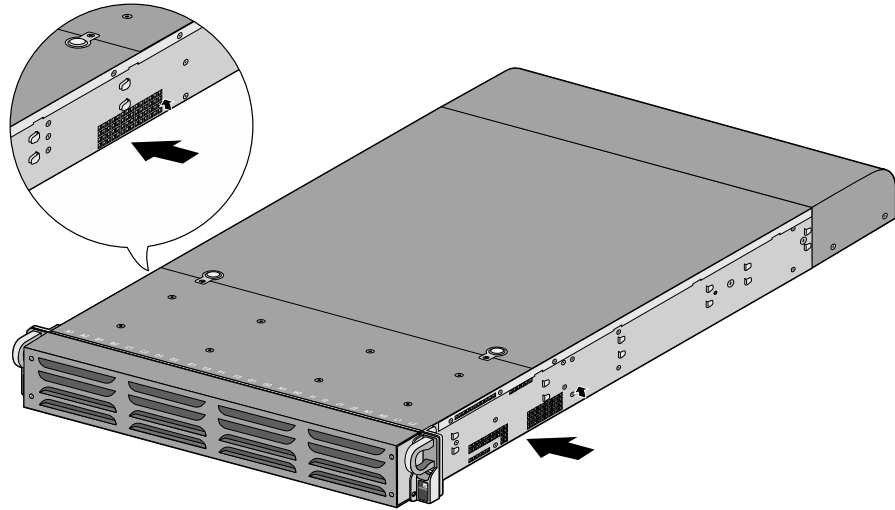
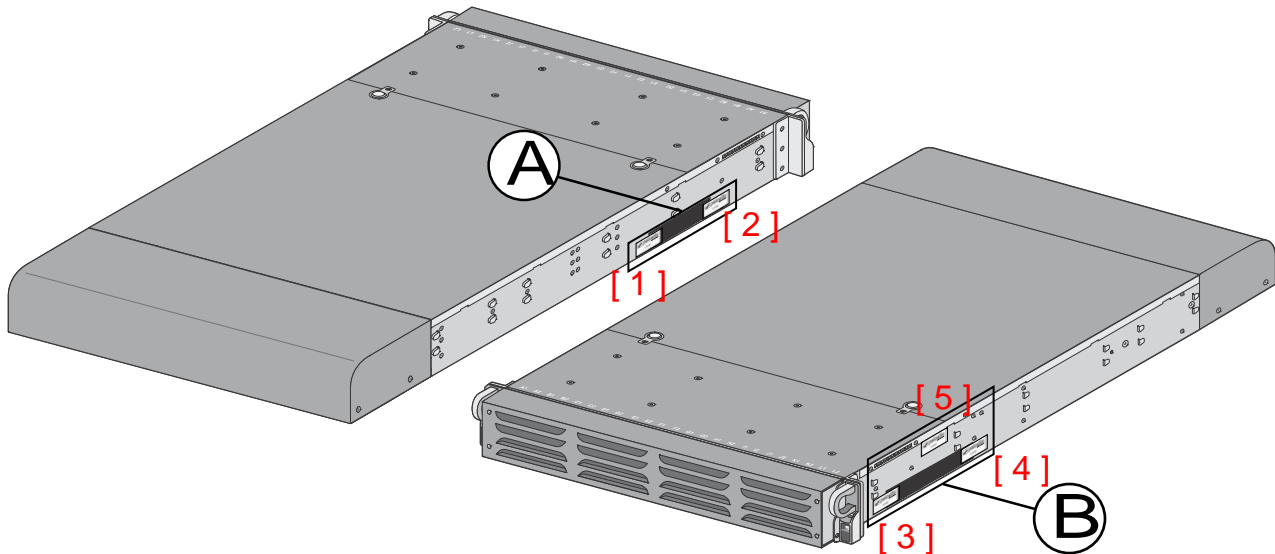

Figure 45 - M-500: Apply Vent Overlays
Figure 46 - M-500: Apply Tamper Seals on Vent Overlays and Side Opening
Cover the vent openings as shown in Figure 45 by applying one (1) overlay sticker over the left side vent and one (1) overlay sticker over the right side vent. Each overlay requires two (2) tamper seals as shown in Figure 46 (A). Also apply one (1) additional tamper seal as shown in Figure 46 (B) #5.